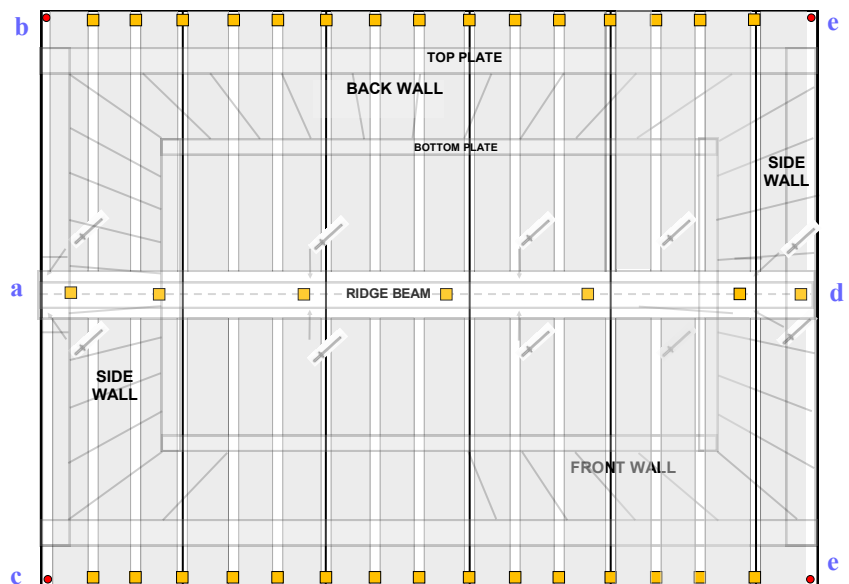

fig.2
- Rivet the 2 Ridge Caps together using 4 rivets, so total flashing is 2.720m long. Rivet the Ridge Cap to the centre of the roof using 8 x rivets as shown (fig.2).